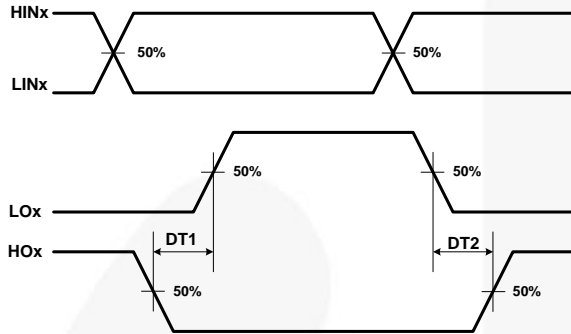

Figure 38. Internal Dead-Time Definitions
- MDT is defined as $|DT1-DT2|$ referenced to Figure 38.
Dead time is automatically inserted whenever the dead time of the external two input signals (between HINx and LINx signals) is shorter than internal fixed dead times (DT1 and DT2). Otherwise, external dead times larger than internal dead times are not modified by the gate driver and internal dead-time waveform definition is shown in Figure 38.